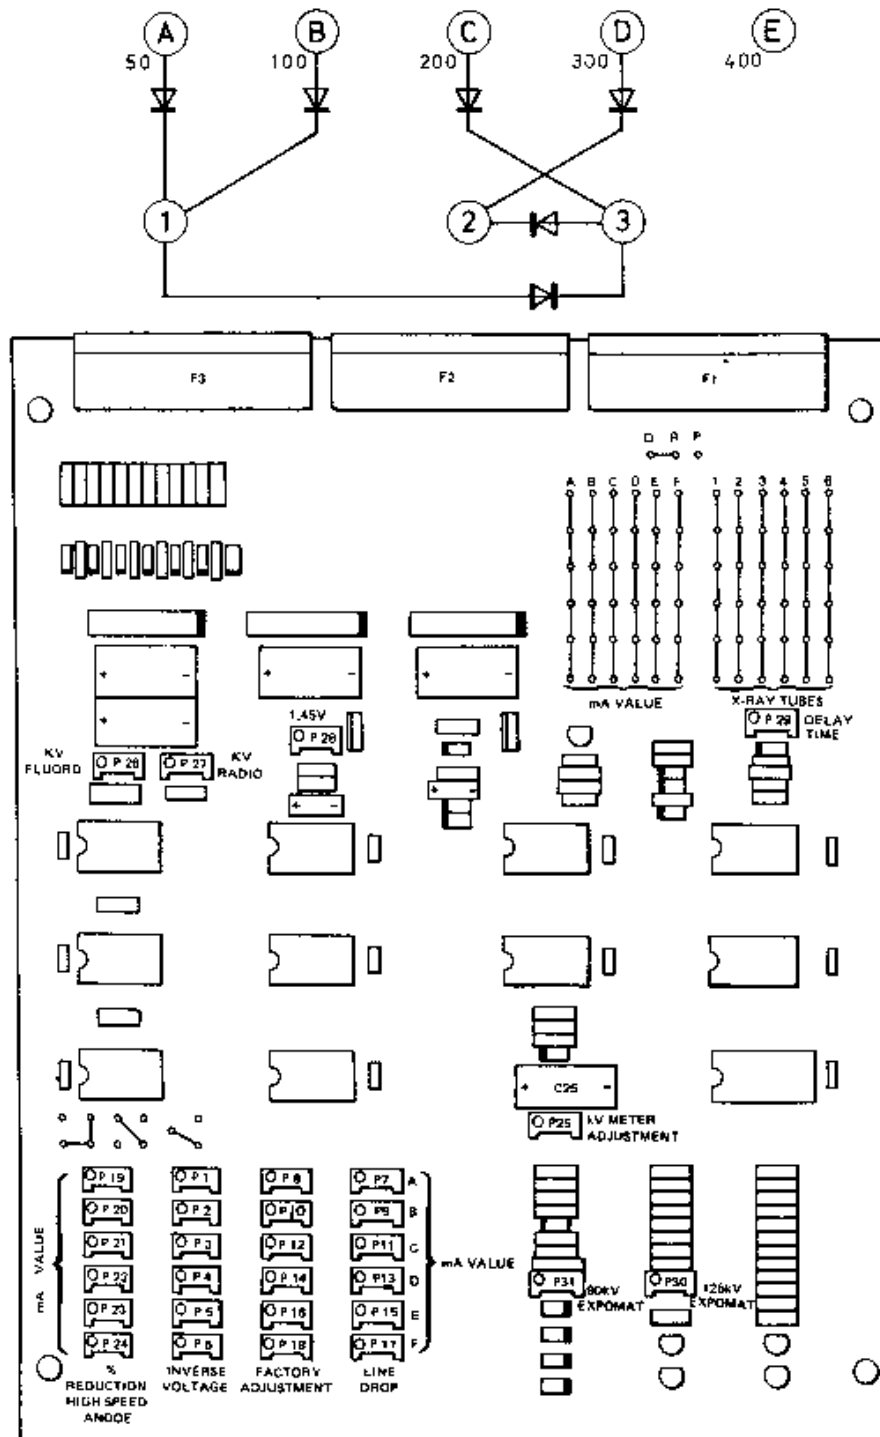

FIG 10. KV ADJUST PCB
These can be rearranged to suit individual tube requirements by following the example shown in Fig 10 page 28.
- A Turn potentiometers P19 to P24 on the kV Adjust pcb (see Fig. 10) fully counter-clockwise.
- B Refer to the tube rating charts for low speed use, and adjust the potentiometer on the kV Adjust pcb 4037 (see Fig. 10) associated with each mA listed below clockwise until the HIGH SPEED lamp illuminates at or before the overload point calculated on every kV rating curve.